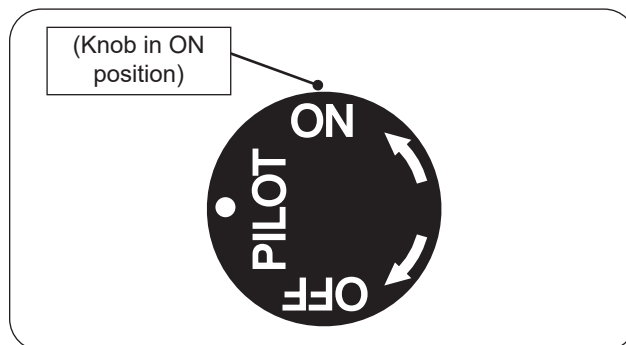

Fig. 33-1 Manual lighting
1. Ensure the pilot is burning. Turn the control knob counterclockwise ↺ to **ON** to ignite the burner (see Fig. 33-1).